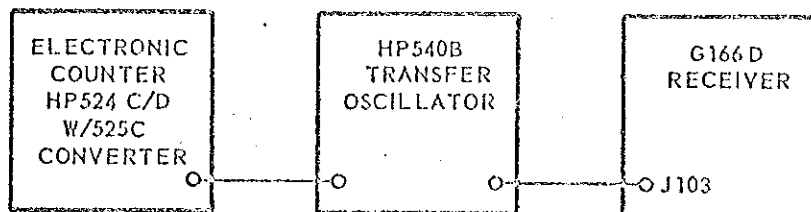

Figure 5-7
- a. Connect test equipment as shown in figure 5-7 and set BAND SWITCH in 220-500 MC position. Check dial accuracy at 220 mc, 360 mc, and 500 mc. Local oscillator frequency (as displayed by counter), should be the dial reading plus 60 mc ( $\pm 1\%$  of dial reading).